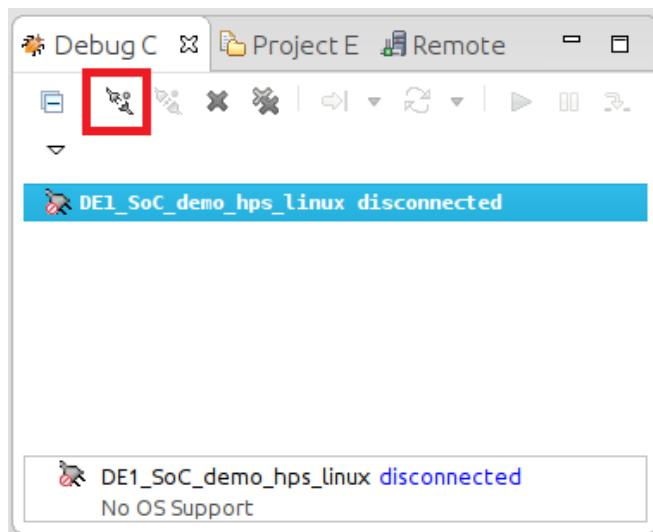

Figure 13-28. Debug Control View
85. In the "Debug Control" view, click on the "DE1\_SoC\_demo\_hps\_linux" entry, then click on the "Connect to Target" button, as shown on Figure 13-28. The debugger will start an SSH connection to the linux distribution running on the DE1-SoC and will automatically transfer our binary file and wait at our application's "main()" function. If you are prompted to log in, then log in with the **ROOT** user and password.